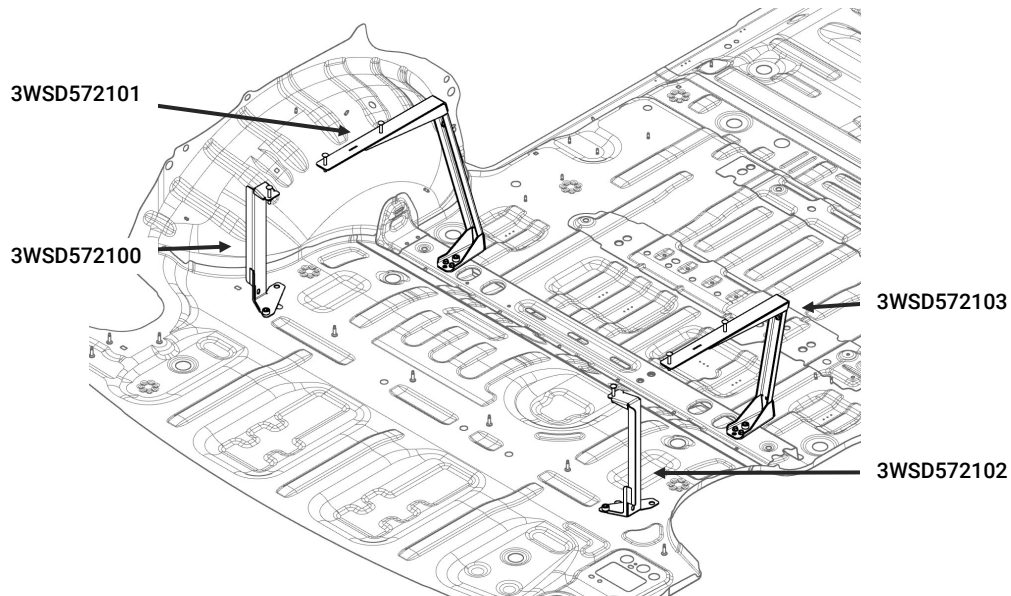

Figure 2
- B. Locate the (4) storage drawer brackets [3WSD572100, 01, 02, 03] and place them into the cargo area. Figure 2 shows the locations they will mount to.